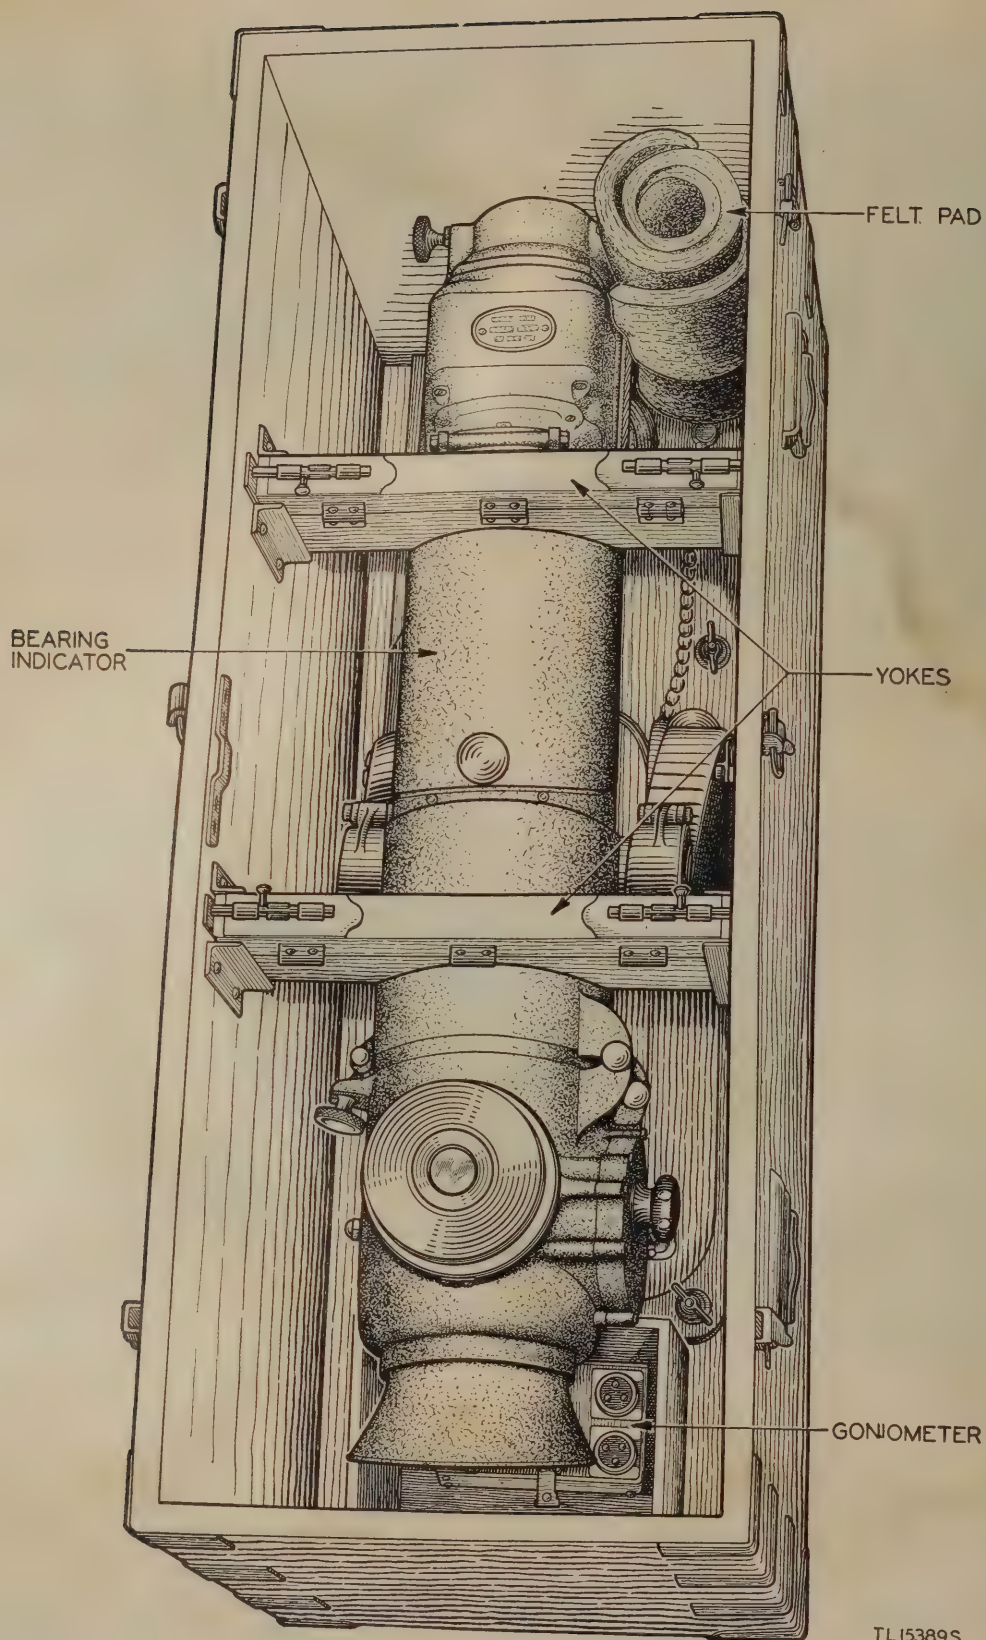

Figure 84. Alternate Chest CH-162-A, open.
a. An alternate design of Chest CH-162-A (fig. 84) is furnished on certain orders of Radio Set SCR-291-A.
- (1) Open the chest by lifting the lid straight up, to prevent binding of the